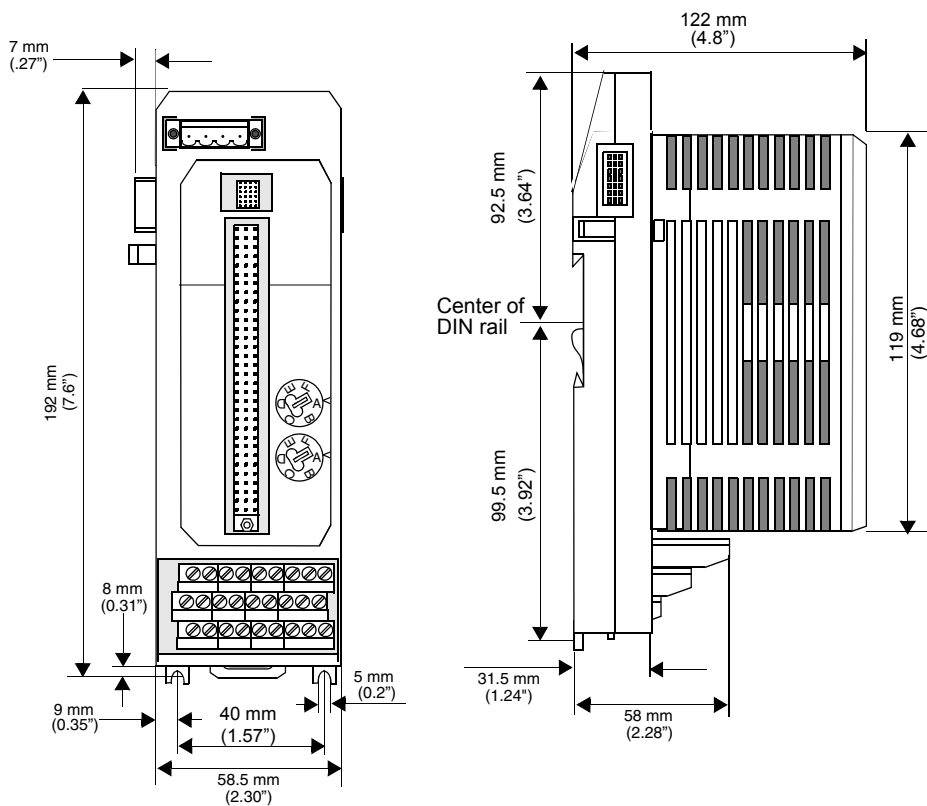
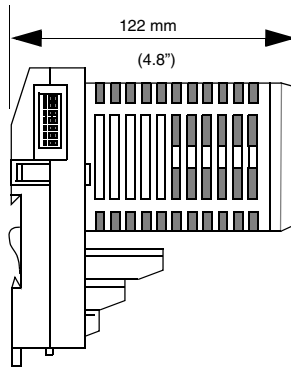

Figure 20. Compact MTU for Intrinsic Safety without and with I/O Module
Figure 22. MTU with I/O Module
- S800 I/O modules designed to be used together with the Module Termination Units. See Figure 20 and Figure 22.